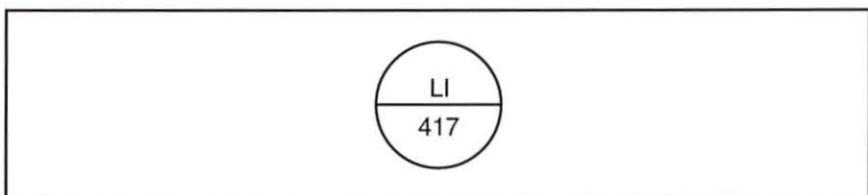

Figure 54. Instrument Tag
12. Determine the measured variable indicated in the instrument tag in figure 54.